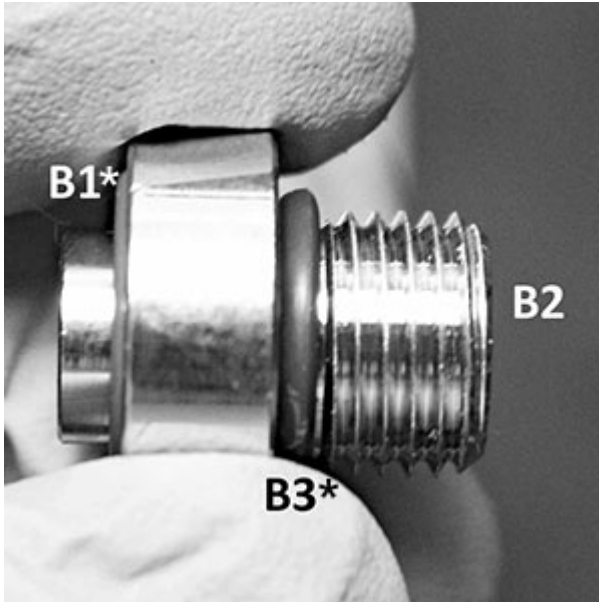
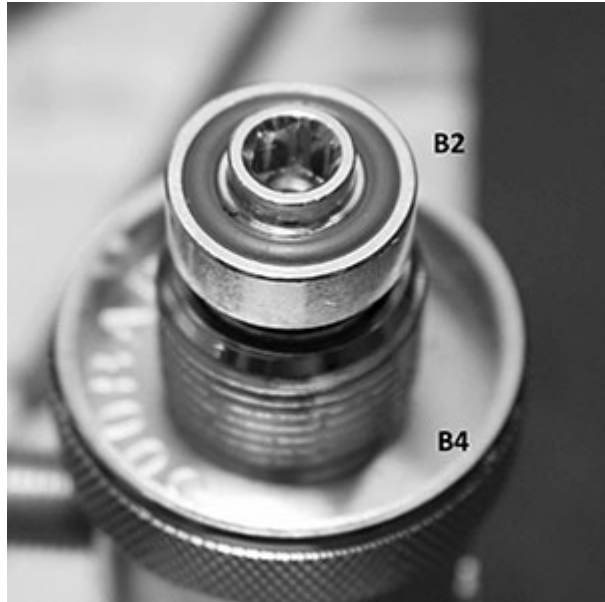

Fig. 38
Fig. 39
12. Place the O-ring (B3\*) on the DIN Retainer (B2) and the O-ring (B1\*) into its groove - Fig. 38. Place the DIN Knob on the DIN Housing. Screw the DIN Retainer into the DIN Housing - Fig. 39.